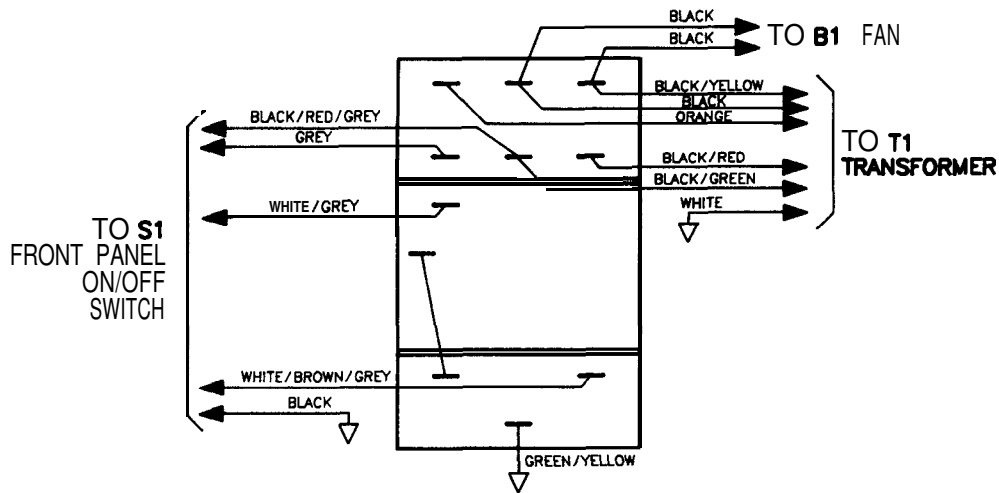

Figure 5-9. Wire Connections to Line Module **FL1**
Refer to Figure 5-9 and the following text to repair 3.5 mm connectors.
7. Remove transformer **T1**. When replacing the transformer, refer to Figure 5-9, which illustrates the locations of the various wires connected to line module **FL1**.